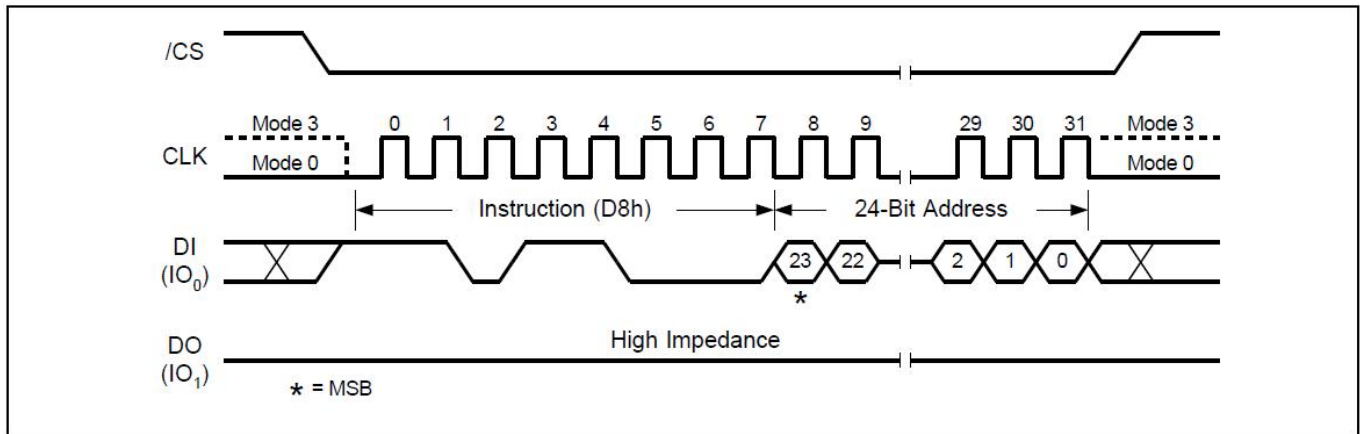

Figure18. 64KB Block Erase Sequence Diagram
The Chip Erase command sequence: CS# goes low → sending Chip Erase command → CS# goes high. The command sequence is shown in Figure18. CS# must be driven high after the eighth bit of the command code has been latched in; otherwise the Chip Erase command is not executed. As soon as CS# is driven high, the self-timed Chip Erase cycle (whose duration is tCE) is initiated. While the Chip Erase cycle is in progress, the Status Register may be read to check the value of the Write in Progress (BUSY) bit. The Write in Progress (BUSY) bit is 1 during the self-timed Chip Erase cycle, and is 0 when it is completed. At some unspecified time before the cycle is completed, the Write Enable Latch (WEL) bit is reset. The Chip Erase (CE) command is executed, if the Block Protect (BP2, BP1, and BP0) bits are 0 and CMP=0 or the Block Protect (BP2, BP1, and BP0) bits are 1 and CMP=1.